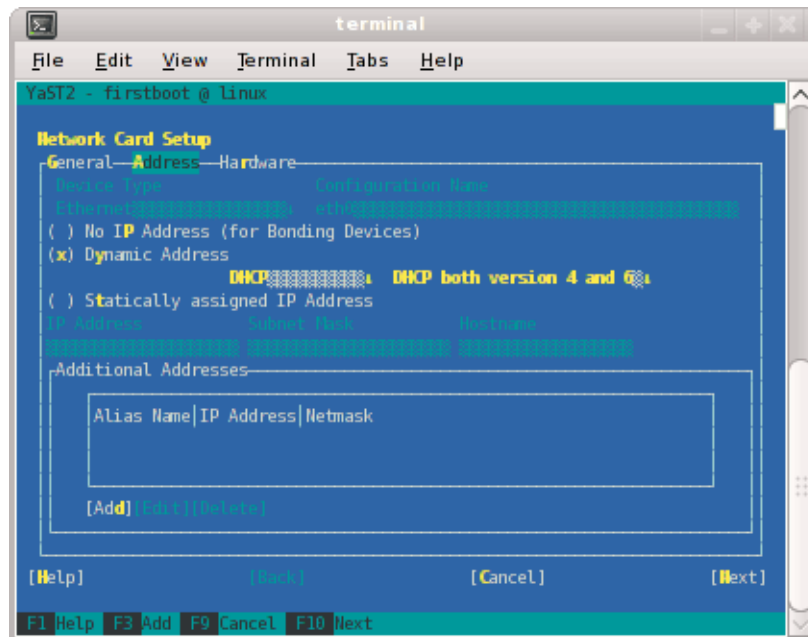

Figure 2-6 Network Card Setup Screen
9. The **Network Card Setup** screen appears, as shown in Figure 2-6 on page 41. SGI suggests using static IP addresses and not DHCP for admin nodes. Select **Statically assigned IP Address**. Once selected, you can enter the IP Address, Subnet Mask, and Hostname.